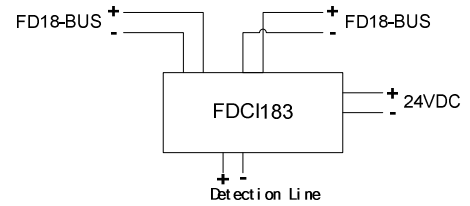
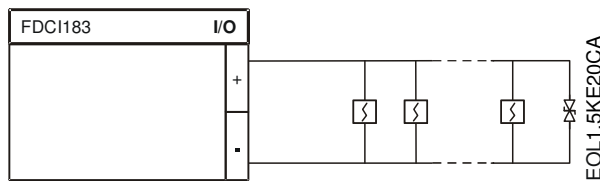
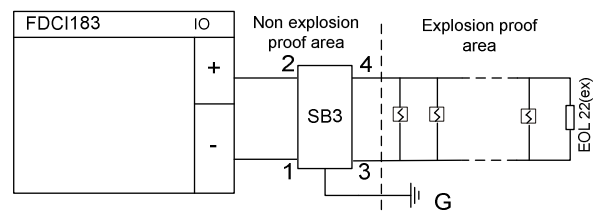

Fig. 7
Fig. 8 Detection line connection
Fig. 9 Detector line with safety barrier
- Connect the cables to the terminals according to the connection diagram (Fig. 7, Fig. 8, Fig. 9).
- Connect the line terminators (EOL). These must be connected to the end of the line (Fig. 8 / Fig. 9).